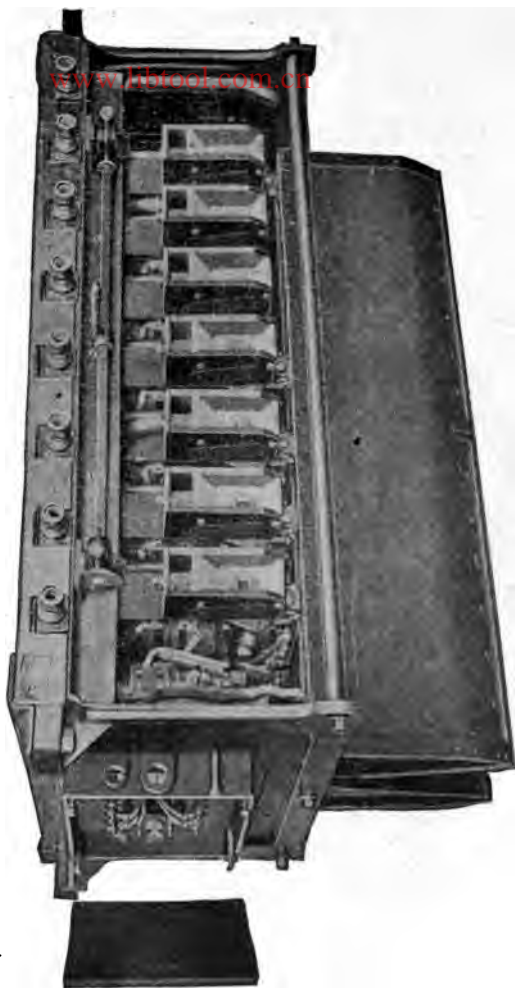

Fig. 481. Contactor Box. Contain 15 Contactors and Potential Relay. Train Cable Connection Box is Mounted on Left End.
11. THE CONTACTOR BOX (Fig. 481) is located beneath the car, about midway between the trucks.